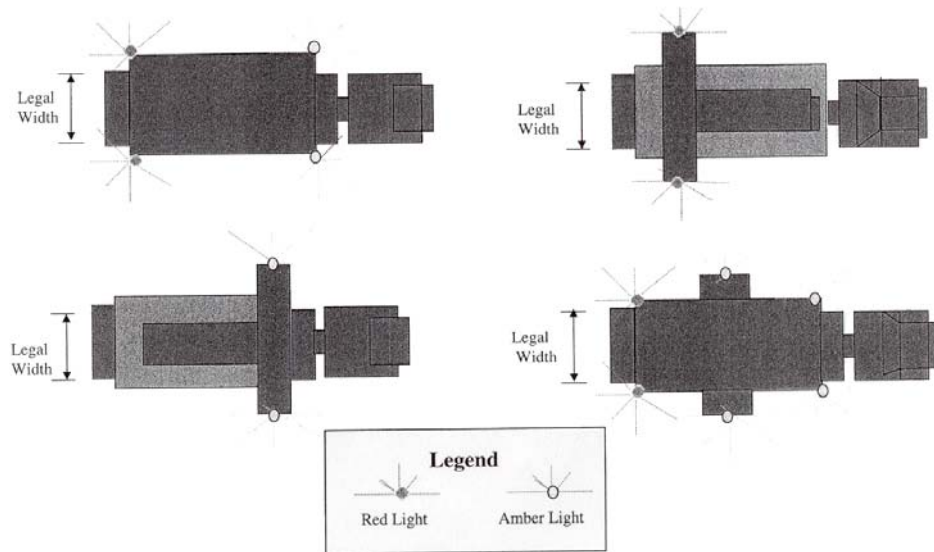

Figure 4.3: Warning Lights on Overwidth Loads
- 4.6.4.1 Warning lights shall be used for authorized night operations as shown in Figures 4.3 and 4.4. The lights must be visible from a minimum of 500 feet in all directions. The lights shall be steady burning. The color of the lights shall be as follows:
- 4.6.4.2 For overwidth loads uniform in width, place amber lights on the forward corners of the load and red lights on the rear corners of the load as shown in Figure 4.3.
- 4.6.4.3 If the load is overwidth for its entire length with a wider portion near the middle of the load, place red and amber lights at the rear and front corners of the load, respectively, with amber lights on the sides at the extreme limits of the load as shown in Figure 4.3.
- 4.6.4.4 If the load is nonuniform in width with the overwidth portion at the rear extremity of the load, place red lights on the side of the load at its extreme width as shown in Figure 4.3.
- 4.6.4.5 If the load is nonuniform in width with the overwidth portion to the front, place amber lights on the side at the load extremities as shown in Figure 4.3